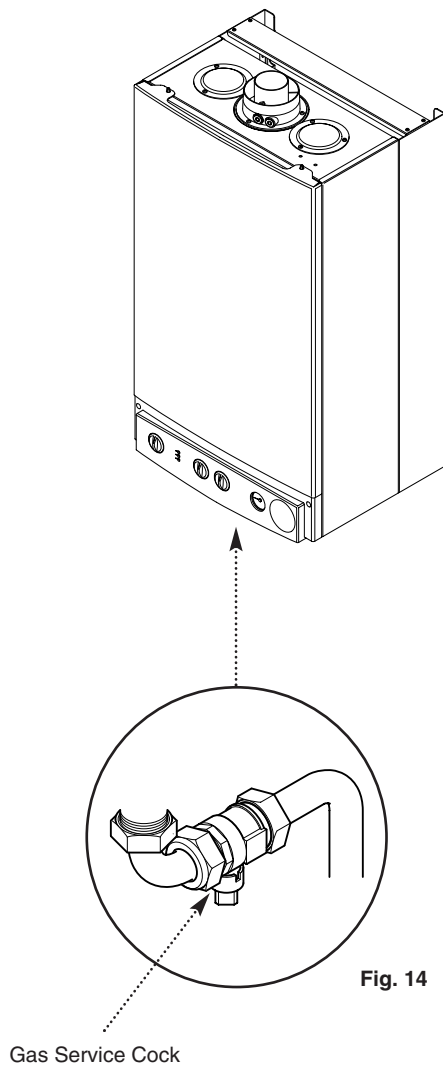

Fig. 14
2. The connection to the appliance is a 22mm copper tail located at the rear of the gas service cock (Fig. 14).